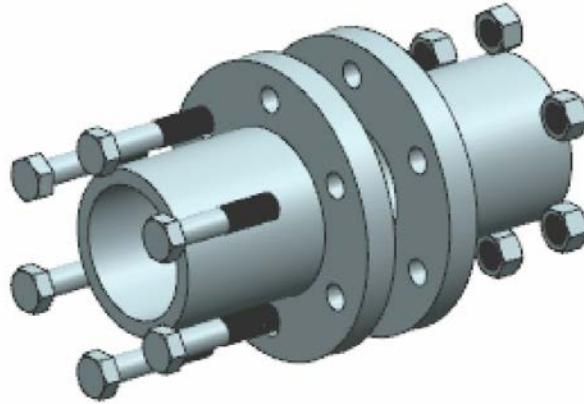
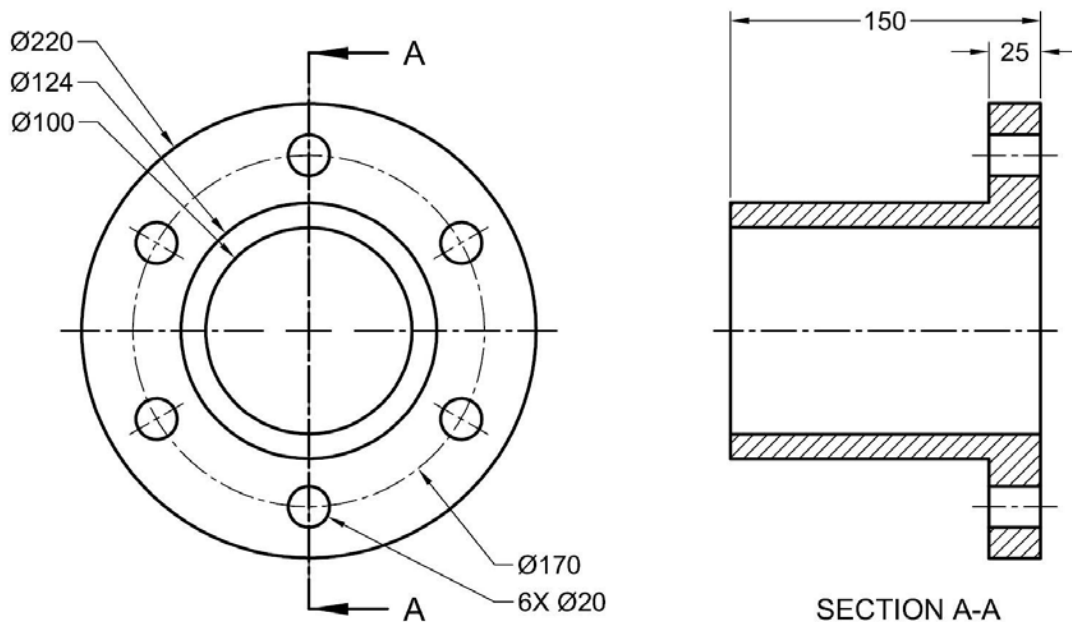

Figure 9-35 The exploded view of the Flange Coupling assembly
Figure 9-36 Dimensions and views of the flange
In this tutorial, you will create exploded views of the Flange Coupling assembly. The exploded state of the Flange Coupling assembly is shown in Figure 9-35. The dimensions of the components are given in Figures 9-36 through 9-38. You will use the automatic explosion method for completing this tutorial. Save the configuration with the name *Flange Coupling.prt* at the location *\NX\c09\Flange Coupling*. **(Expected time: 1.5 hr)**
- Create all the components of the Flange Coupling assembly by using the dimensions given in Figures 9-36 through 9-38. Save the components in the specified folder.
1. Create all the components of the Flange Coupling assembly as separate part files and save them at the location `\NX\c09\Flange Coupling`. The views and dimensions of the components are given in Figures 9-36 through 9-38.